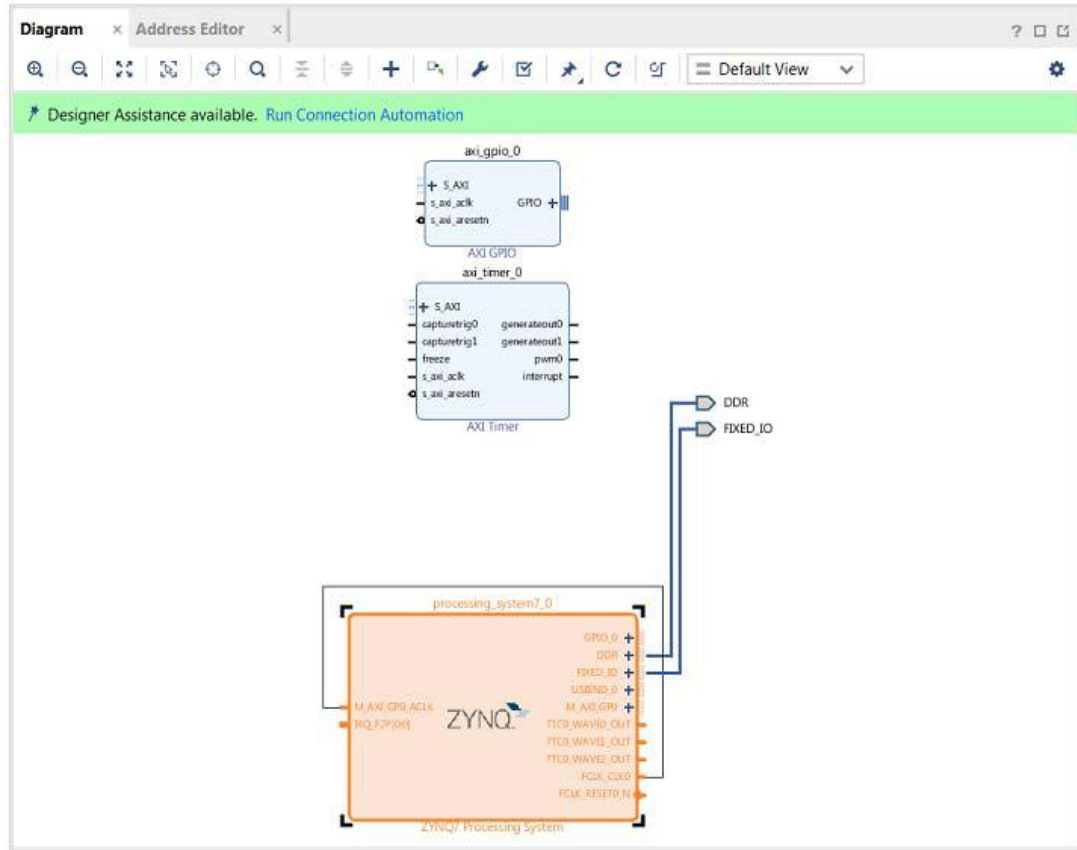

Figure 3-3: ZYNQ7 Processing System IP
14. Click **OK** to accept the changes to the ZYNQ7 Processing System IP. The Diagram looks like Figure 3-3.